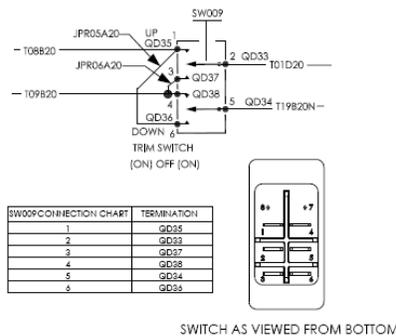

Figure 31-17 Partial Schematic of the Trim Switch Circuit
5. Tag and remove each of the wires going to the trim switch. Refer to Figure 31-17 for the wire numbers and location of the terminals on the switch.
6. Connect the wires to the replacement switch. Refer to Figure 31-17 when connecting the wires to the terminals on the switch. If wire splices are required, see Chapter 20 – *Standard Practices* for wire splicing procedures and requirements.